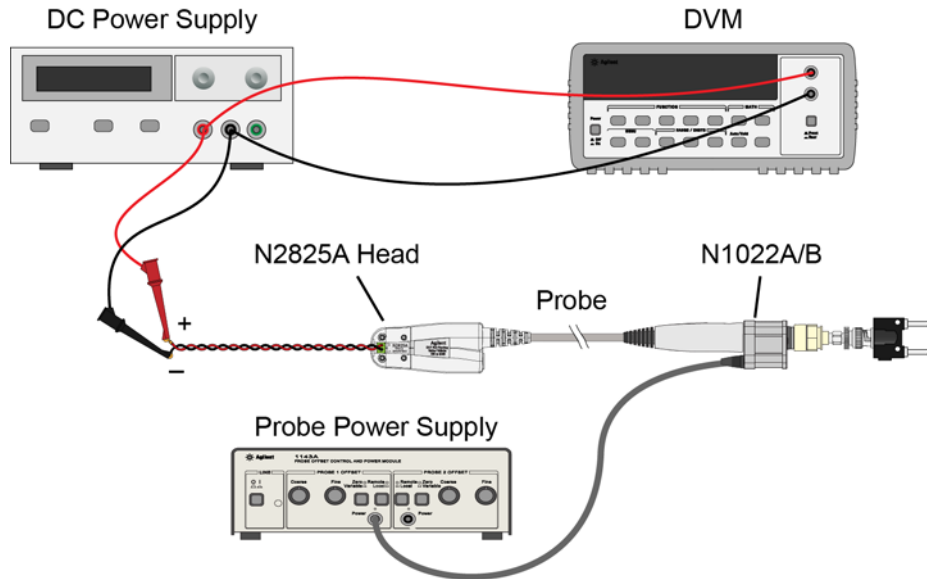

Figure 48 Test Setup for Measuring  $V_{in}$
- 1 Snap an N2825A head onto the N2820/1A probe and connect the test equipment as shown in Figure 48. Be sure to connect the positive side of the DC supply to the red lead on the N2825A head.
- 8 Connect the multimeter on the DC power supply as shown in Figure 48 on page 93.